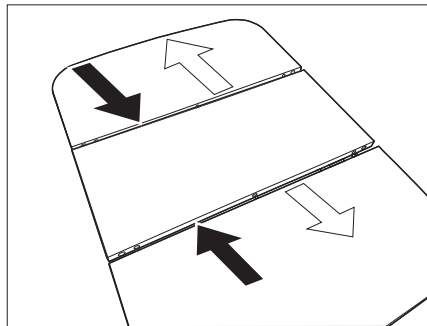

Fig. 104 Lowering the table
- Push the outer parts of the table onto the middle part (Fig. 104 - black arrows).
- Pull apart the outer parts of the table (Fig. 104 - white arrows).